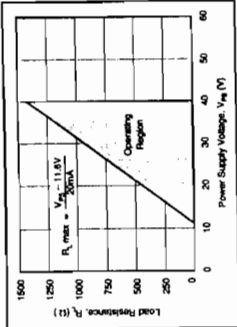

FIGURE 4. Power Supply Operating Range.
6. Always choose  $R_1$  (including line resistance) so that the voltage between pins 7 and 8 ( $+V_{CC}$ ) remains within the 11.6V to 40V range as the output changes between the 4-20mA range (see Figure 4).